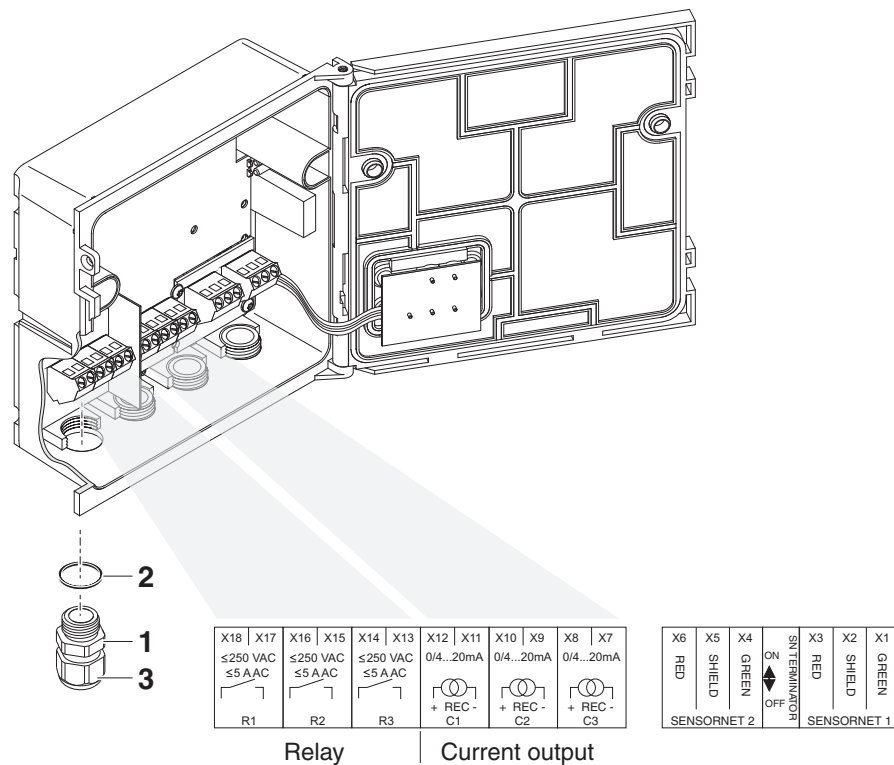

Fig. 3-1 Terminal strip with the relay and current connections
- 2 | Screw the cable gland (pos. 1 in Fig. 3-1) with the sealing ring (pos. 2) into the module housing.
- 3 | Loosen the coupling ring (pos. 3 in Fig. 3-1).
- 6 | Tighten the coupling ring (pos. 3 in Fig. 3-1).